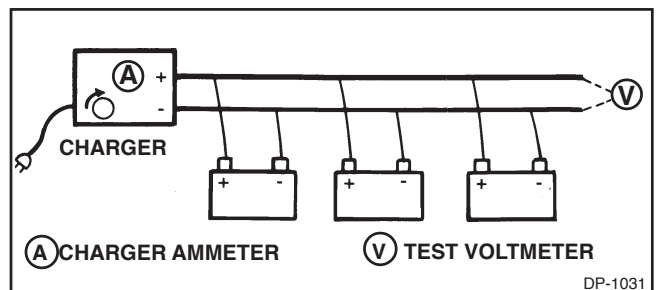

Figure 2.
With Parallel Chargers, the batteries are connected so that the charging current is divided and each battery receives only the charging current it can accept at the charger's voltage. (See Fig. 2 for typical hook-up.) Because of these differences, the charging procedures also differ.
2. Connect batteries and test voltmeter to charger as shown in Figure 2. Make sure that all connections are clean and tight. Set charging voltage setting to a setting that does not exceed 16.0 volts. The charger may not be able to reach this voltage initially, but as batteries become charged and accept less current, the voltage will rise. The ammeter of the charger is indicating the total current flow to the connected batteries. This current divides into the various batteries. It is not a measure of each battery's current acceptance. Do not exceed the charger's capabilities by connecting too many batteries. Follow the charger manufacturer's directions.